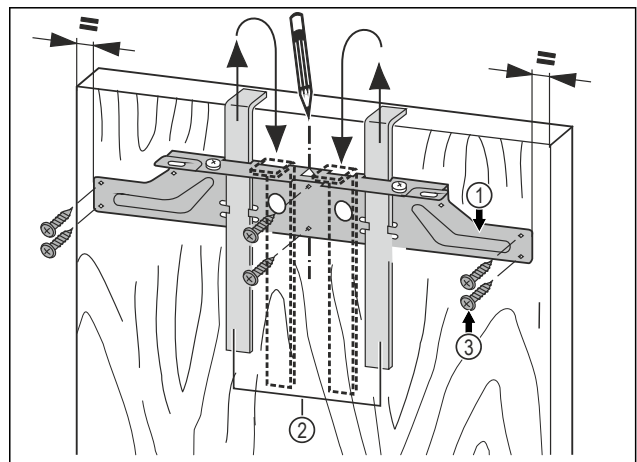

Fig. 42
- Hang the fastening crossbeam Fig. 42 (1) with the assembly aids Fig. 42 (2) on the inside of the unit door.
- Align the fastening crossbeam Fig. 42 (1) in the center of the door.
- ▶ Screw down the fastening crossbeam Fig. 42 (1) with at least 6 screws Fig. 42 (3).
- ▶ Screw down the fastening crossbeam Fig. 42 (1) to the edge with 4 screws Fig. 42 (3).
- ▶ Pull out the assembly aids Fig. 42 (2) upwards and insert them rotated into the adjacent openings.